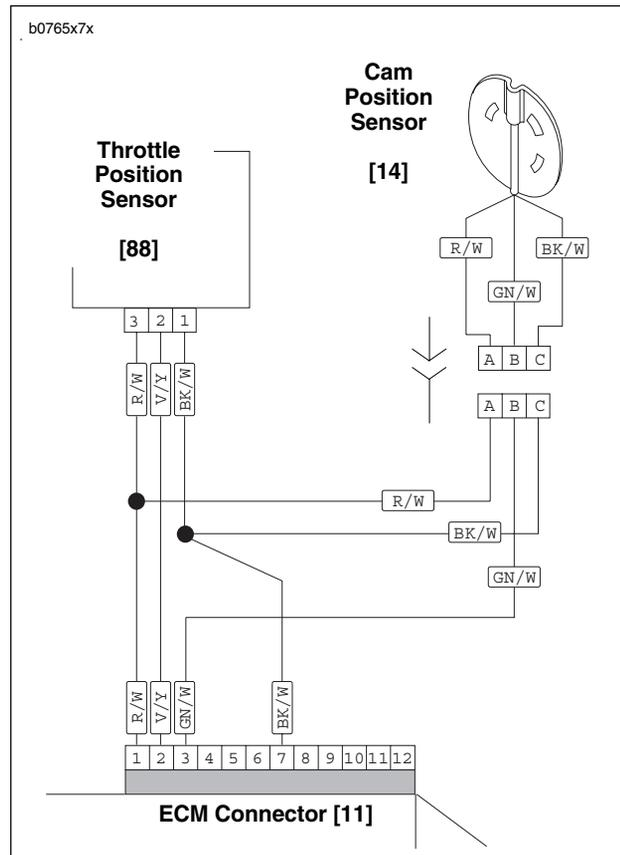

Figure 4-37. Connecting Sensor Wires
2. Install trigger rotor (17).
- a. Apply LOCTITE THREADLOCKER 243 (blue) to threads of bolt (18).
- b. Position trigger rotor (17) onto end of camshaft aligning notch with camshaft slot.
3. Install cam position sensor (19) and timer plate studs (4). Rotate cam position sensor to its previously marked position to obtain approximate ignition timing.
5. See Figure 4-37. Install sensor wiring terminals into correct positions in plug end of connector [14]. R/W, GN/W and BK/W wires of plug end (from cam position sensor) must match same color wires in receptacle end of connector (from ignition module wiring harness). Install pin terminals. See B.2 DEUTSCH ELECTRICAL CONNECTORS under B.1 AMP MULTILOCK ELECTRICAL CONNECTORS.